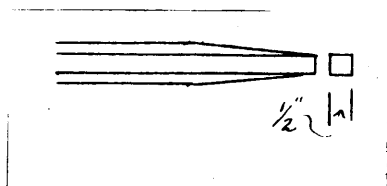

Figure 2.
2. Mark with center punch two inches from the end opposite the head. Heat to a cherry red heat, and draw out the end to  $\frac{1}{2}$ " thickness. (Figure 2).